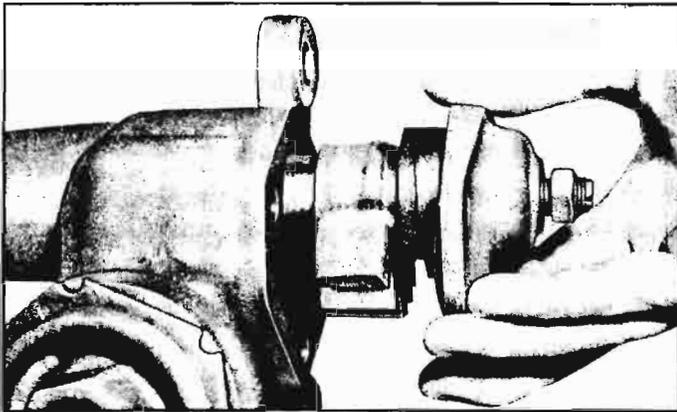

Fig. 4-46—Removing Cover and Sector Shaft
4. Pull the side cover with the sector and shaft from the housing (fig. 4-46).